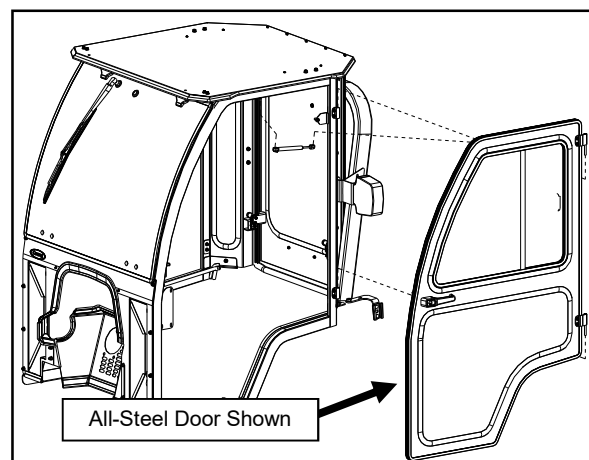

Fig. 17.1 (Door Installation)
17.1 If the doors were removed for ease of handling, grease the hinge pins and re-install the doors into their respective hinge sleeves located on the side frames. See Fig. 17.1